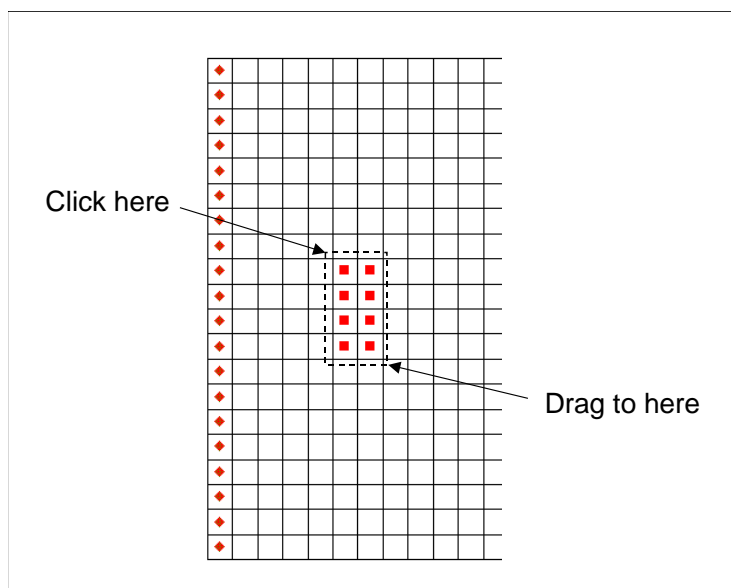

Figure 3 Selecting the cells defining the plume
5. Drag a rectangle to select a 2x4 rectangular region of cells as shown in Figure 3. The currently selected cell represents the cell in the upper left corner of the grid of cells.